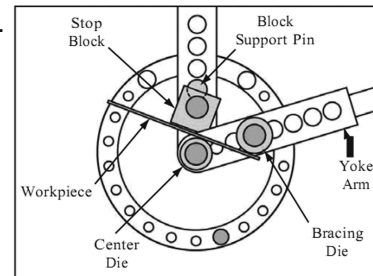

Figure 4. Basic radius bending setup.
- Select the bending die that most closely matches the radius you wish to bend, then install it as the center die on the hinge pin (9) that attaches the yoke arm (15) to the bending bracket (4). (See figure 4).
- Mount the block support pin (13) and the stop block (10) with the remaining long hinge pin (9). **Note:** Make sure the offset hole of the stop block is farthest from the center die to ensure that the block does not turn during the bending operation.
- Select a bending die that will secure the workpiece against the center die without the workpiece slipping, then install it as the bracing die with the short hinge pin (14). Make sure the bracing die is as close to the workpiece as possible.
- Insert the workpiece between the dies and the stop block (10), as shown in figure 4.